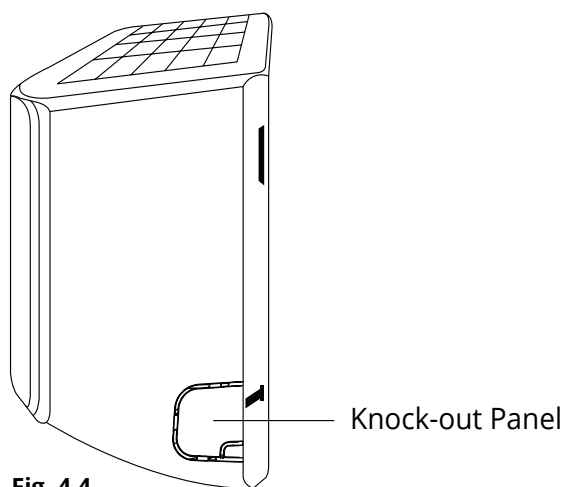

Fig. 4.4
2. If the wall hole is behind the unit, keep the knock-out panel in place. If the wall hole is to the side of the indoor unit, remove the plastic knock-out panel from that side of the unit. (See **Fig. 4.4**). This will create a slot through which your piping can exit the unit. Use needle nose pliers if the plastic panel is too difficult remove by hand.